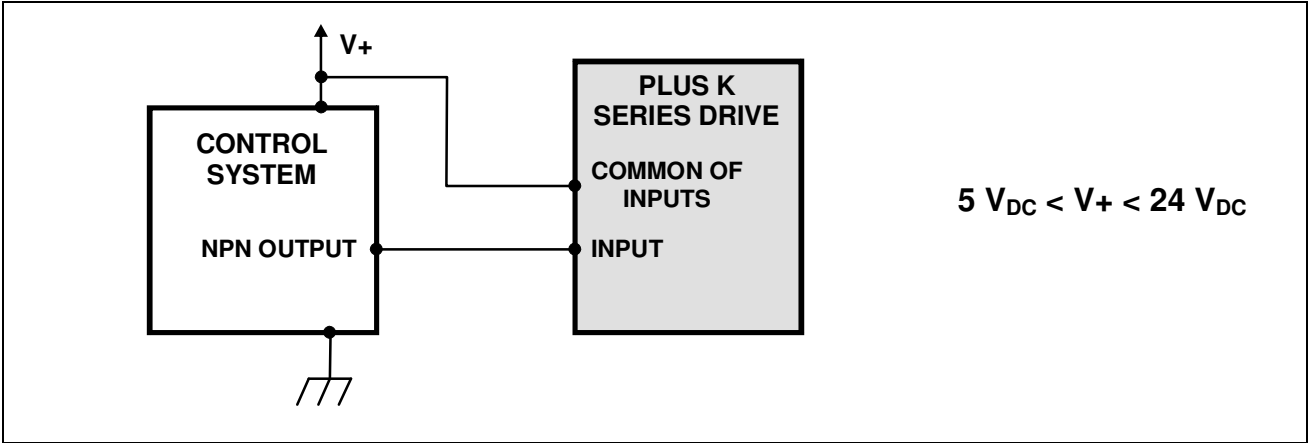

Fig. 11 - Driving a PLUS K logic input from a control system with a NPN open collector output.
- Connect earth line to motor chassis. To reduce the radio-frequency emissions, the mechanical connection of motor to machine chassis (by means of mounting flanges and screws), is typically simple and effective solution. In this case, both screws and chassis must be of conductor material and the chassis must be connected to earth. See fig. 11.